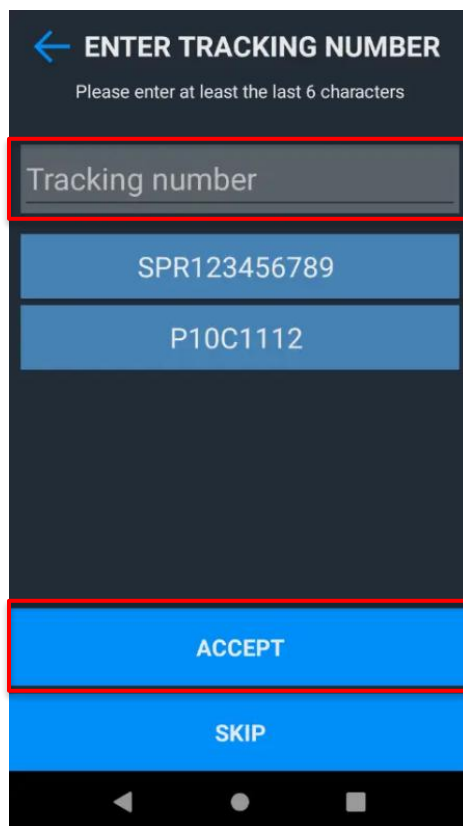

Figure 22: Enter tracking number manually
5. **Enter** at least the **last 6 characters** of the **tracking number**. See Figure 22.
6. Tap **Accept** or tap the Enter button on the device. See Figure 22.